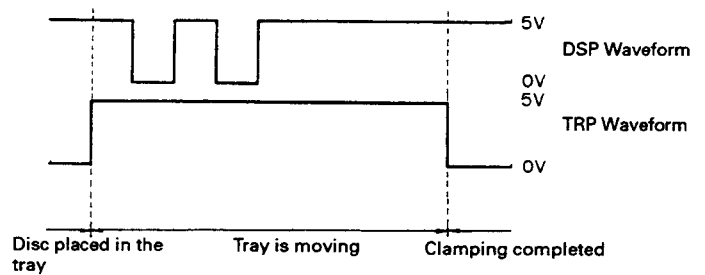

Fig.32
2) Tray extension and retreat (Figure 32)